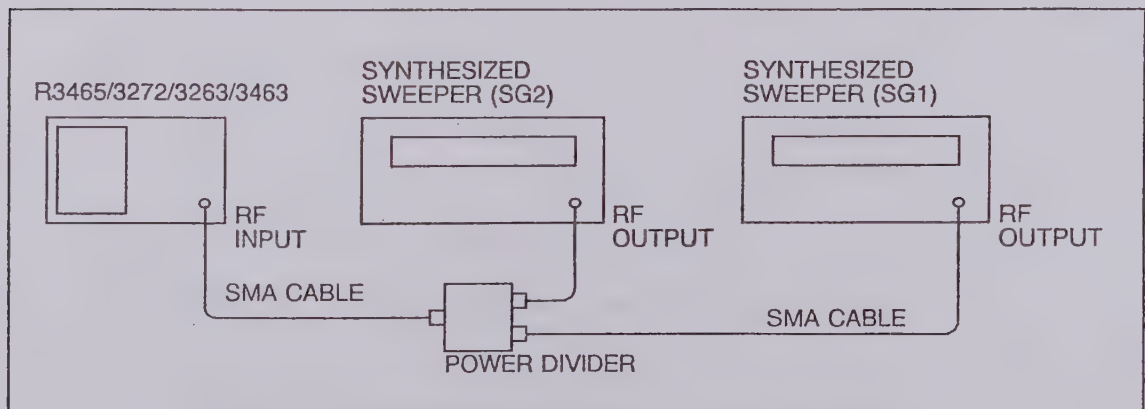

Figure 1-11 Third Order Intermodulation (< 2 GHz) Test Setup
(1) Select Divider 1 and connect the units as shown in Figure 1-11.
(2) Press the INSTR PRESET key on each synthesized sweeper. Set each of the synthesized sweeper controls as follows: